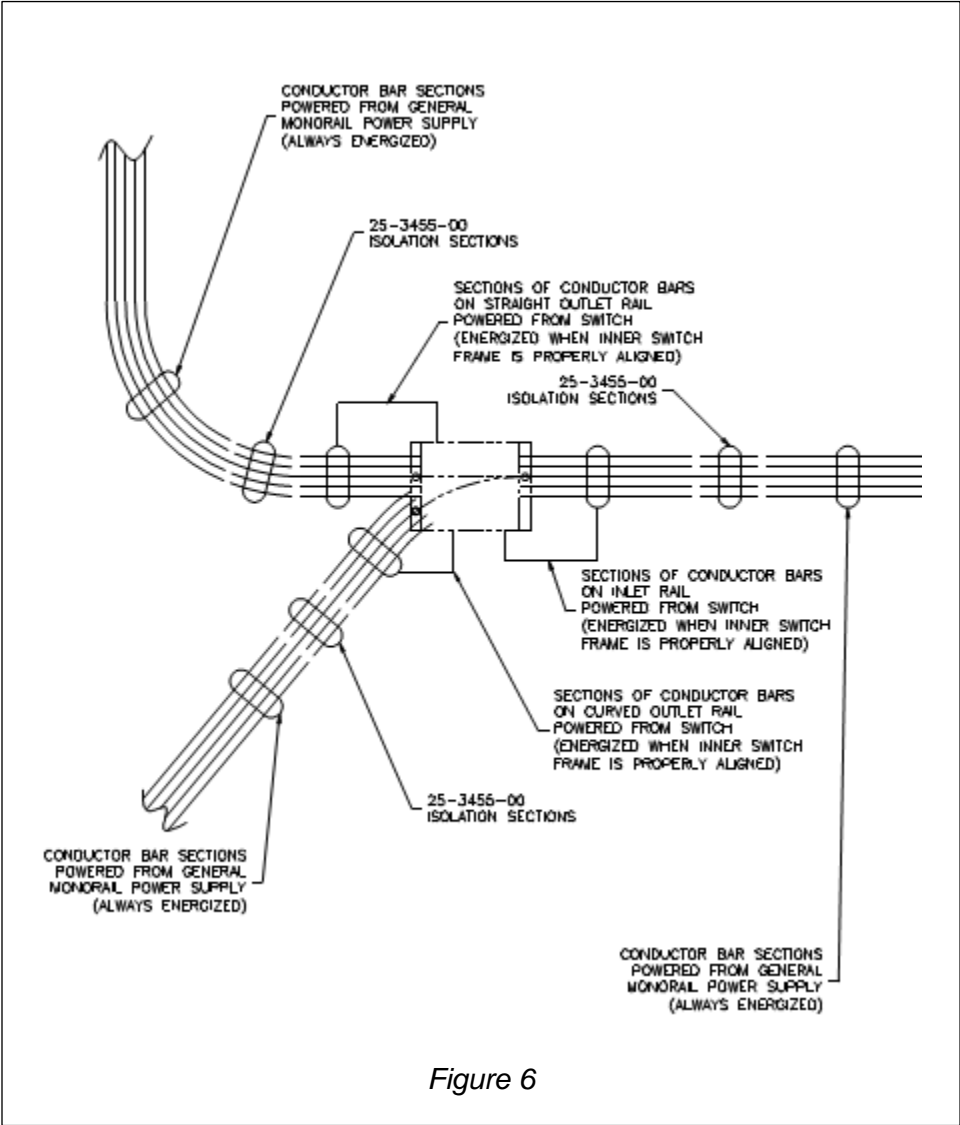

Figure 6
For zones in which electrical power is to be turned either “on” or “off” upon the discretion of an operator, the sections of conductor bars in the zone must be separately connected to the general monorail power supply (building power grid) and controlled through an electrical control panel with appropriately rated switching mechanisms. See Figure 6 for a typical system using isolation sections for this purpose. See the Installation Instructions for Shielded Channel-Bar electrical conductors for making power feed connections to the bar.
1. Before beginning installation of the Isolation Sections, make a detailed sketch of the electrical system layout and determine where the isolation zones are needed and the length of zones needed. See Figure 6 for a typical Isolation Section Sketch. Coordinate this sketch and the intended control function of the isolation sections with the electrical contractor who will be doing the installation. Each system using isolation sections will be unique to the application and needs of the user. There is no standard installation sketch or layout, each must be individually planned.
Shown in Figure 6 is a typical Isolation Section Sketch.